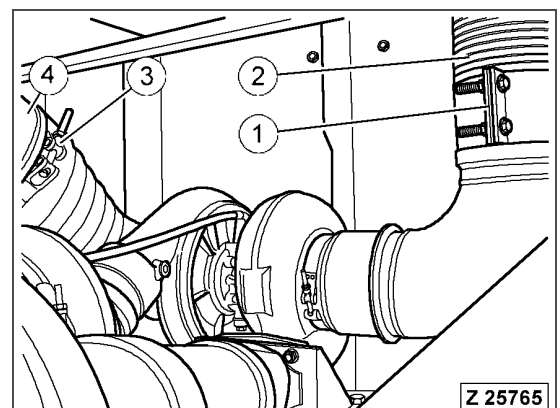

Fig. 3-6
- Remove the clamps (Fig. 3-6, Pos. 1) at the exhaust pipes and remove the flexible pipes (Fig. 3-6, Pos. 2) to both mufflers.
- Remove the clamps (Fig. 3-6, Pos. 3) of the intake hoses and remove the air intake pipes (Fig. 3-6, Pos. 4) from the intake manifolds.